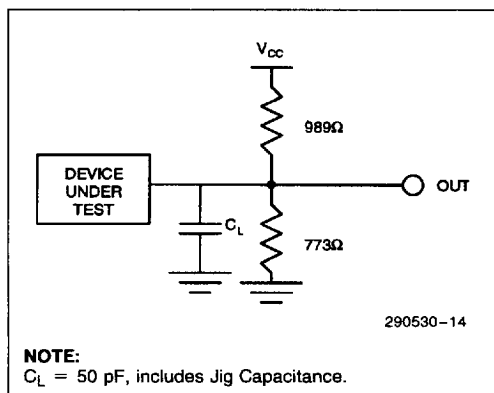

Figure 24. 3.3V Standard Test Configuration
6. See 3.3V Standard Test Configuration. (Figure 24)